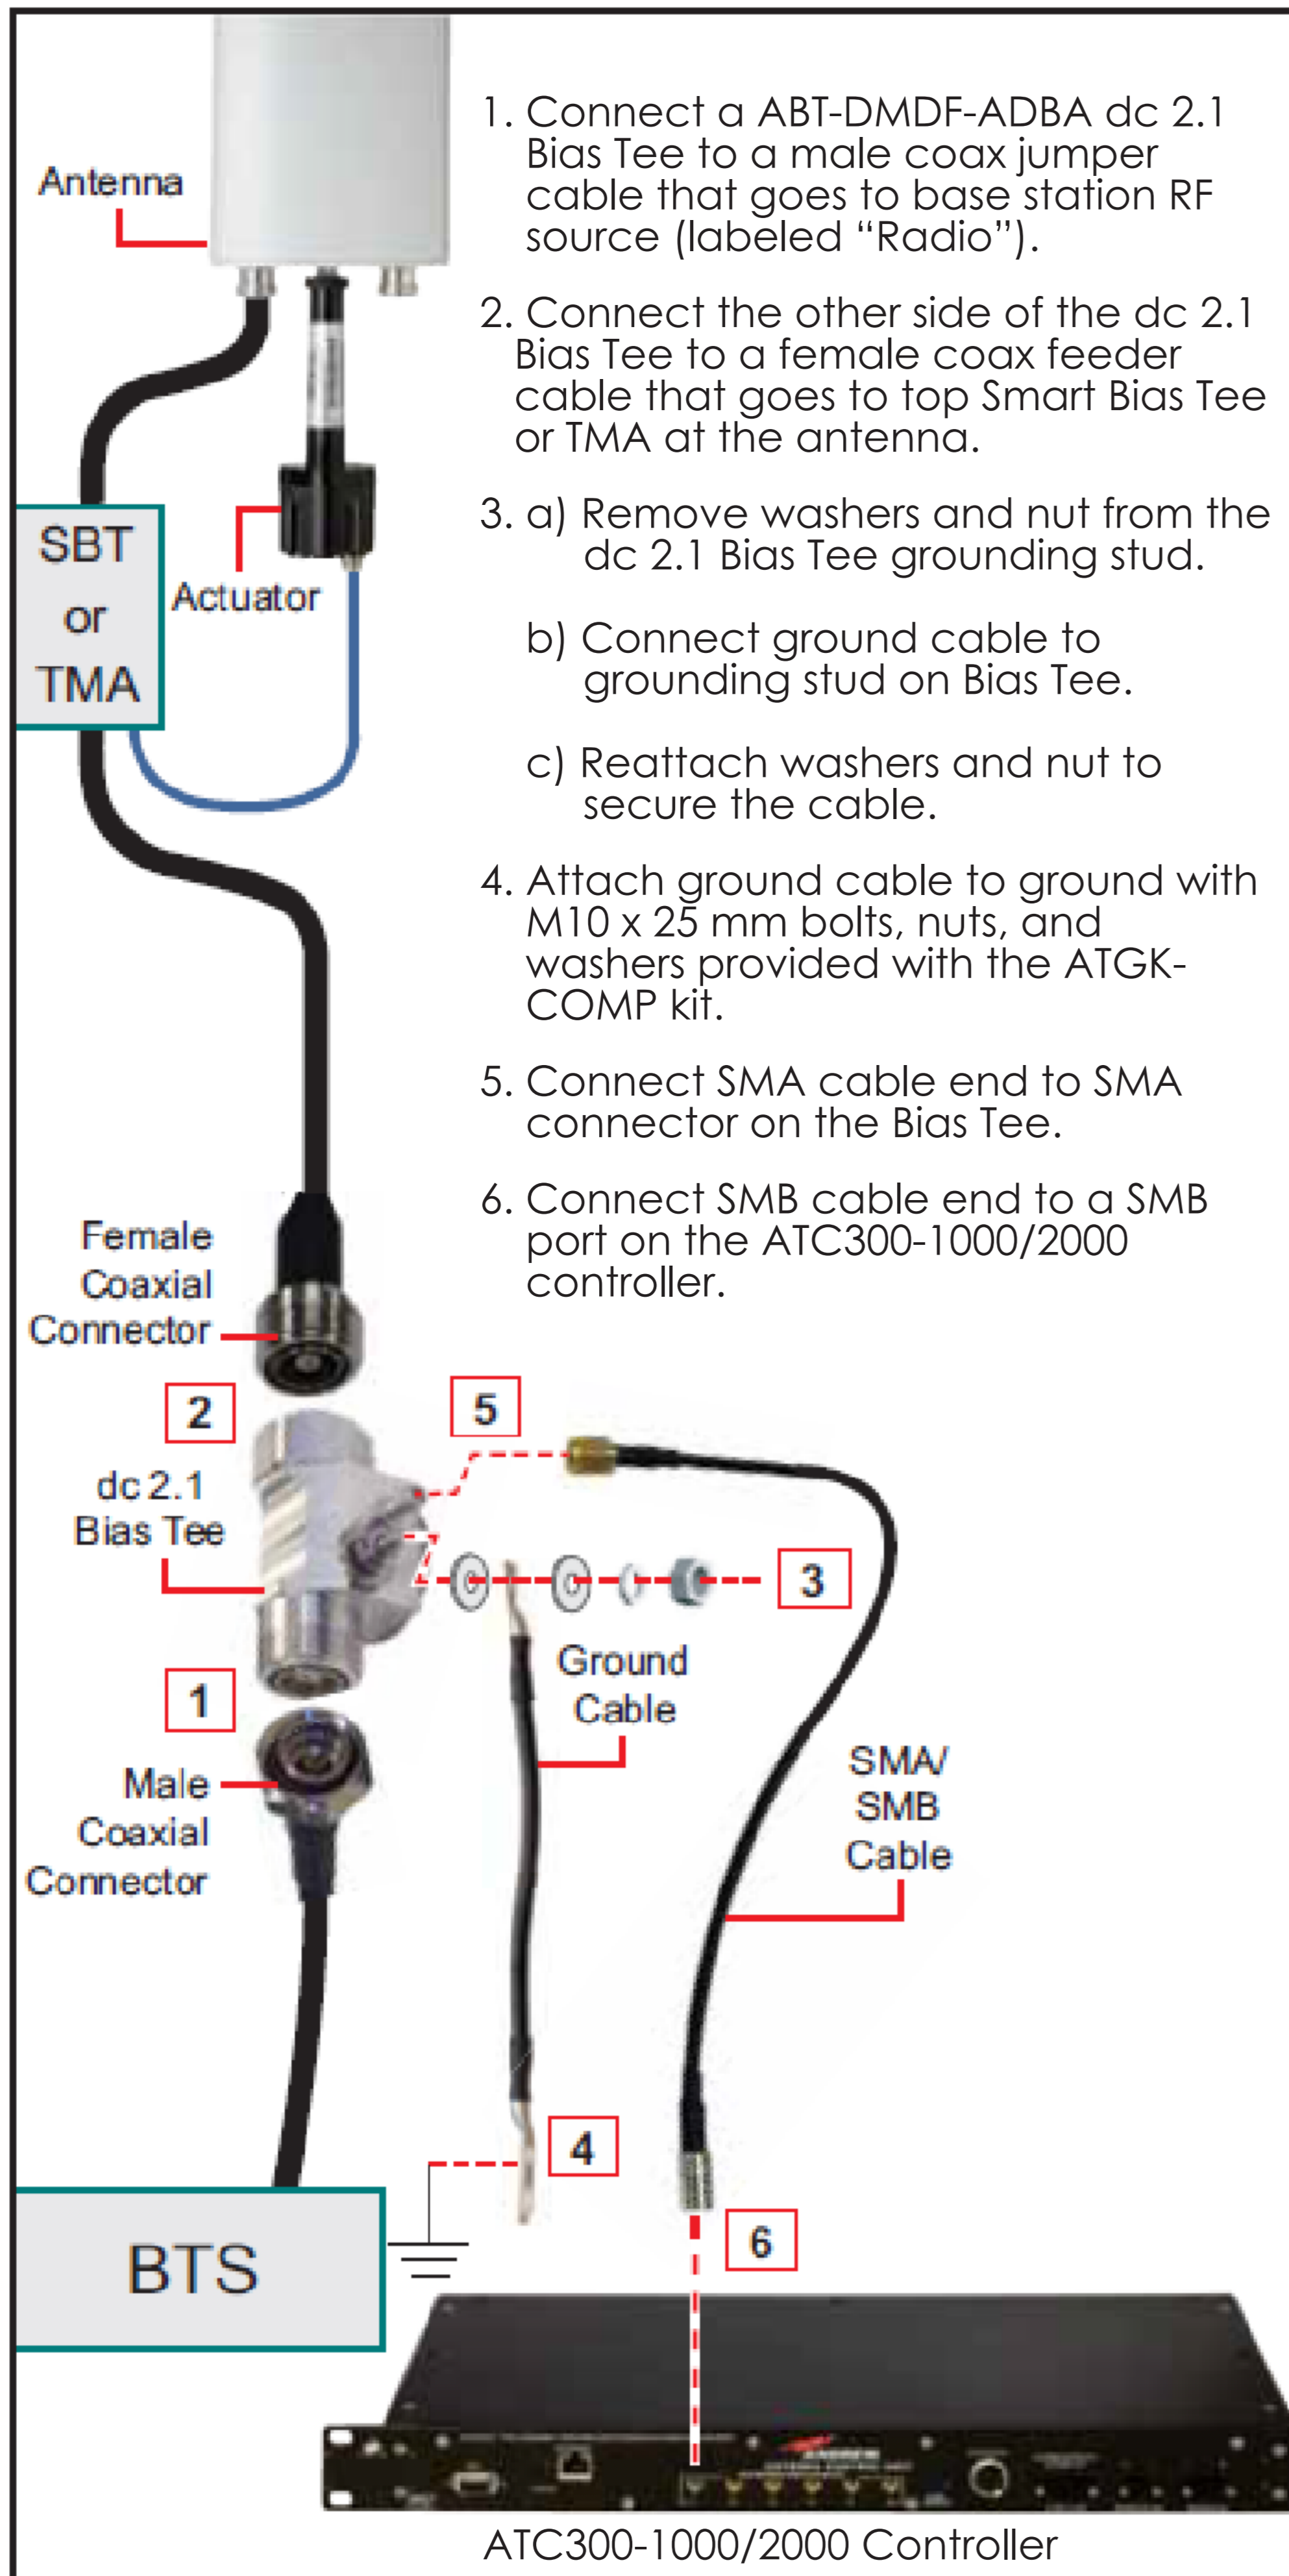

Figure 2. Setting Up The ATBTK-FM In A RET System.
1. Installation of the ATBTK-FM is shown below. Follow steps 1 through 6 in Figure 2.